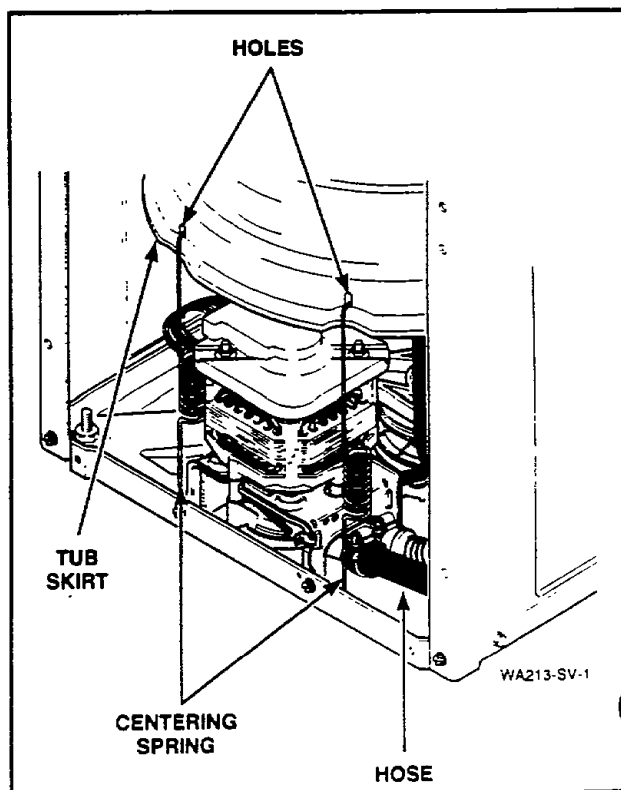

Figure 58
- r. Using No. 289P4 Spring Hook Tool, unhook seven centering springs from lower edge of outer tub, *Figure 58*.
- Using the No. 289P4 Spring Hook Tool, unhook the seven centering springs from lower edge of outer tub, *Figure 58*.